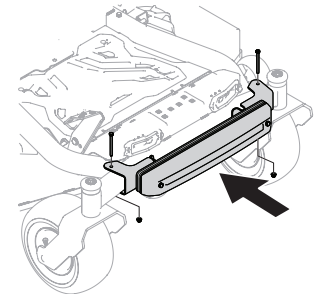

Figure 24
2. Visually center the weight bar assembly on the tractor and using two 7/16" hex head capscrews (710-3279) and two nuts (712-04065) secure the counter weight assembly to the tractor as shown in Figure 24.